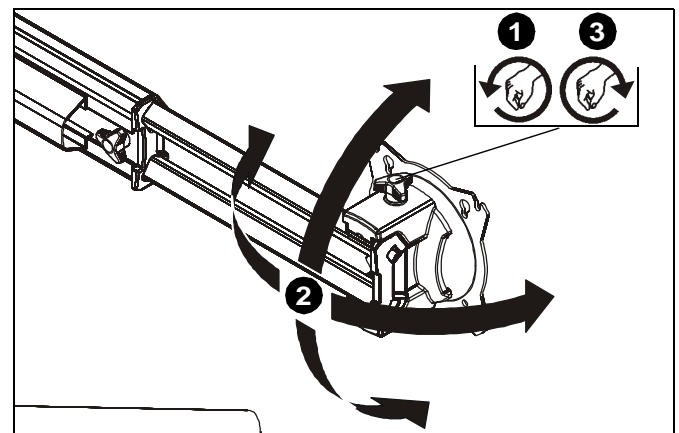

Figure 24
1. Loosen knob on top of faceplate assembly. (See Figure 24)
2. Adjust pitch, roll and/or yaw as desired. (See Figure 24)
3. Tighten knob to secure desired faceplate position. (See Figure 24)